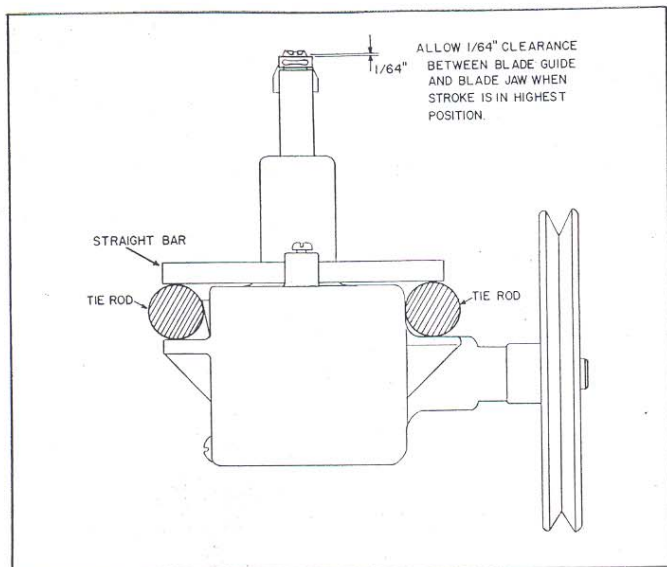

Figure 2
4. Adjust guide post assembly so that the blade guide is $\frac{1}{8}$ of an inch above the lower chuck body when chuck body is in its maximum up position. This can be done by turning pulley shaft, see Figure 2.
7. Use left hand to hold attachment in position and with right hand insert the two straight clamp bars TAB-172. Clamp bars to fit above the two tie rods and pass through slots in attachment. See Figure 2.